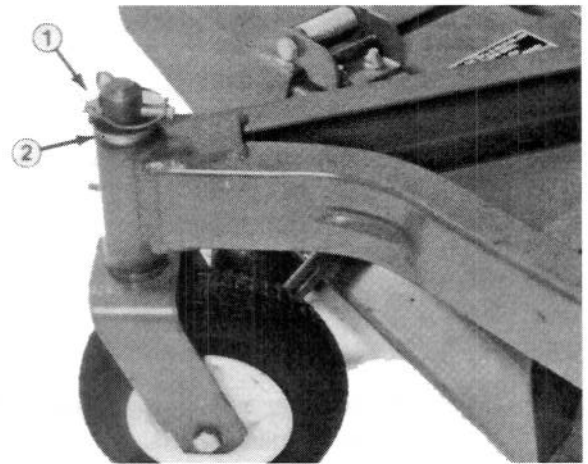

Figure 12
4. Insert the pin punch into the top or bottom of the mounting tube and drive the bushing out of the tube (Fig. 12). Also drive the other bushing out of the tube. Clean the inside of the mounting tube to remove any dirt.